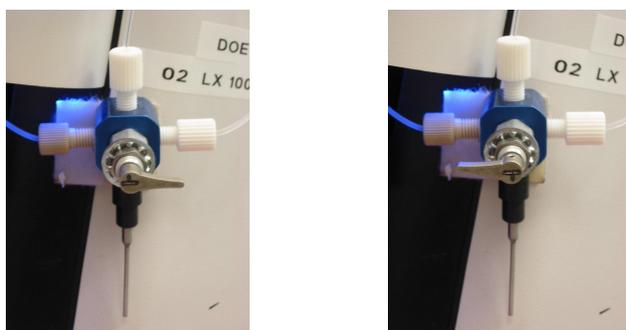

Figure 2: A
- Verify that the 3-way valve that connects the fluidics manifold to the Luminex has the arrow pointing UP (Figure 2, A). The arrow pointing DOWN (Figure 2, B) will allow for calibration of the Luminex through the needle probe, but this must not be done while the fluidics manifold is operating or system pressure could build up and damage the system.